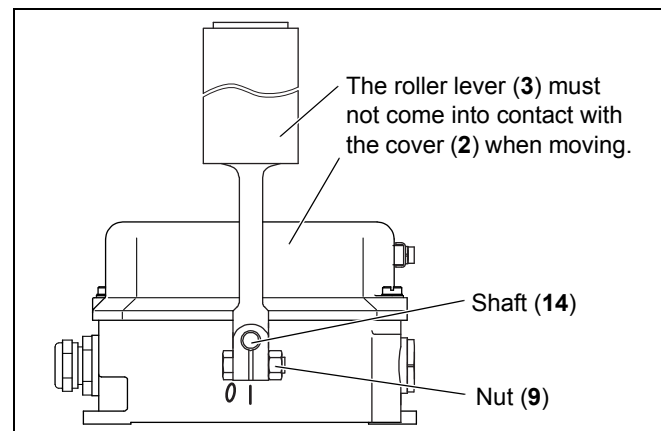

Fig. 5-4: Mounting the roller lever on the belt misalignment switch
2. Secure the belt misalignment switches on the conveyor structure (see section 4.4: "Dimensions", page 15). Secure the belt misalignment switches by screwing two screws through the slotted holes (10) (see fig. 5-4).